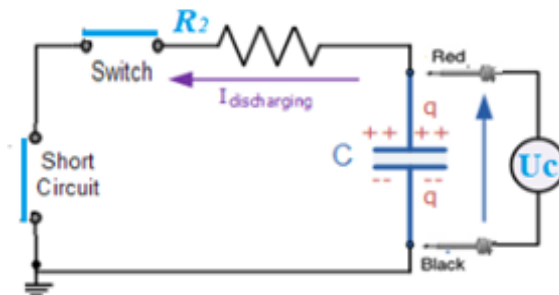

Figure. 4: RC Discharging Circuit.
When the switch is thrown into position 2 as in Figure.4, the battery is no longer part of the circuit and, therefore, the charge on the capacitor cannot be replenished. As a result, the capacitor discharges through the resistor. If we wish to examine the charging and discharging of the capacitor, we are interested in what happens immediately after the switch is moved to position 1 or position 2, not the later behavior of the circuit in its steady state.
Now remove the battery and wire up the circuit (a resistor and a capacitor are connected in series with a switch) shown in Figure 4. For the switch you will use one side of a double-throw switch. The resistance R_2 is set on a variable decade resistance box and should be set at $k\Omega$. Use the same capacitor with capacitance labeled on..... It
A capacitor C is discharged through a resistance by putting switch S in position (B) of circuit shown in figure 4. Start the stopwatch and R_2 turn the switch on simultaneously.